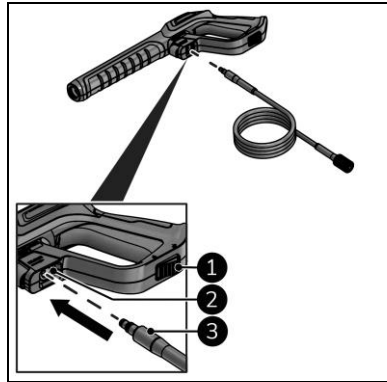

Figure 11
1. Make sure that the safety lock under the trigger is locked (Figure 11, pos. 1).
2. Connect the high-pressure hose (Figure 11, pos. 3) to the jet gun (Figure 11, pos. 2).